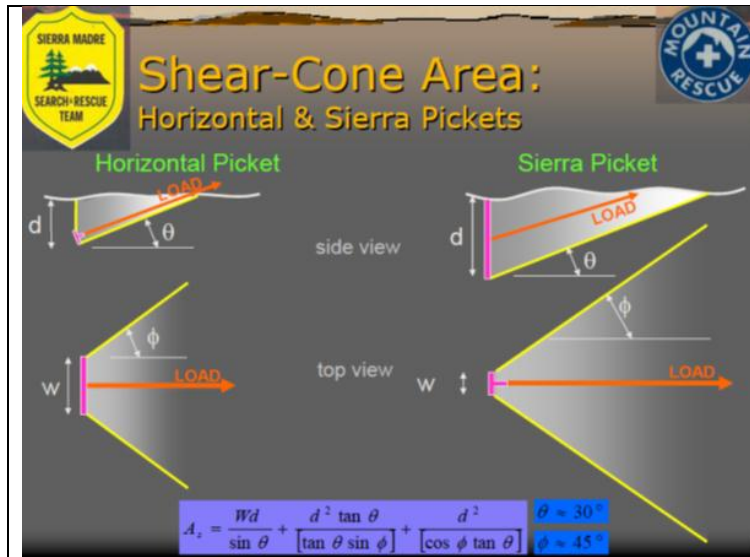
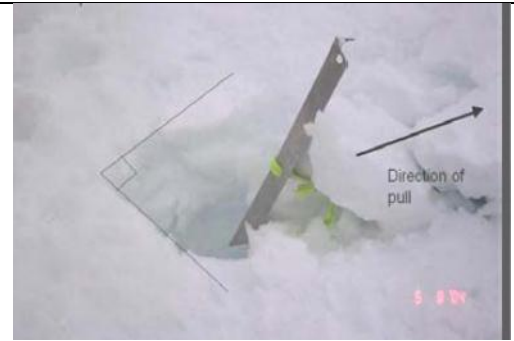

Figure 1.2^{xiii}: Stress cone configuration radiates 45° from the sides and 30° from the bottom.
Figure 1.3^{xiv}: Shear failure showing ejected stress cone.
- **Sheer failure** is when a large chunk of snow is ejected from the snowpack (see *Figure 1.3* below). When the anchor is loaded, a stress cone is formed in the snow in front of the anchor. It radiates out from the sides at approximately 45°, and up from the bottom at approximately 30° (see *Figure 1.2* below). Sheer failures occur when the stress cone reaches its failure point. They are usually explosive events. Typically there is very little anchor displacement prior to failure (and thus little visual warning).